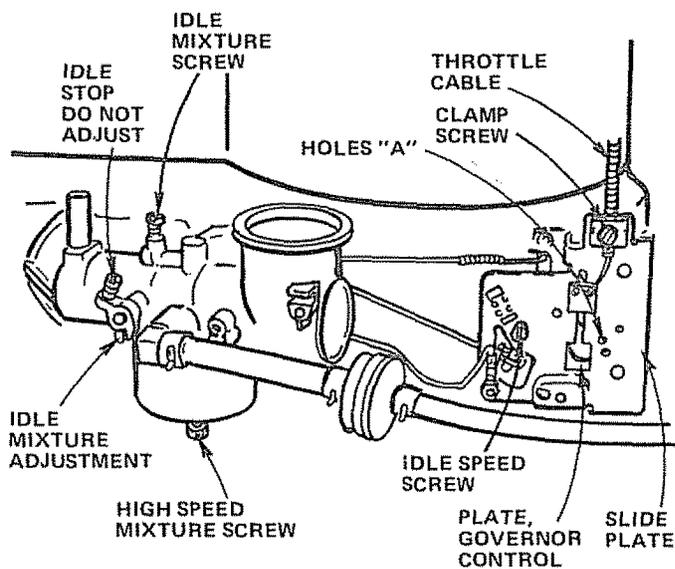

FIGURE 31
CARBURETOR ADJUSTMENT (FIG. 31)
- a. Turn High Speed Mixture Screw clockwise (↻) closing finger tight ONLY, and then turn counterclockwise (↺) 1 - 1/2 turns (Fig. 31).
HARD TO START Choked improperly, flooded Engine Clogged Fuel System Dirty Air Cleaner Spark Plug dirty or improper gap Defective Battery Defective Ignition or loose wiring Water in gasoline or old fuel Improper Carburetor adjustment	Place Throttle Control in "FAST" position (Fig. 10) and run starter several times to clear out gas Remove and clean Tank and lines. Replace Fuel Filter Remove and clean (Fig. 28) Clean, adjust gap or replace (Fig. 30) Recharge or replace Check the wiring and Spark Plug Drain Fuel Tank and Carburetor, use fresh fuel and replace Spark Plug Make necessary adjustments (Fig. 31)
ENGINE MISSES OR LACKS POWER Engine overload Clogged Fuel Tank or Fuel Filter Partially plugged Air Cleaner Improper Carburetor adjustment Dirty Engine Air Screen Low oil level or dirty oil Spark Plug dirty, improper gap or wrong type Faulty ignition Poor compression Oil in gasoline	Shift to a lower gear (Fig. 24) or reduce load Remove and clean Tank; replace Fuel Filter Remove and clean (Fig. 28) Make necessary adjustments (Fig. 31) Clean Air Screen (Fig. 25) Add or change oil (page 14) Replace Spark Plug (Fig. 30) Check Spark Plug and for loose wires Major Engine overhaul Drain Gas Tank and Carburetor and refill
ENGINE OVERHEATS Dirty Air Screen Low oil level or dirty oil Dirty Engine Partially plugged Muffler Partially plugged Air Cleaner Stale fuel or improper Carburetor adjustment	Clean Air Screen (Fig. 25) Add or change oil (page 14) Clean Engine Cooling Fins (page 16) Remove and clean Muffler or replace Remove and clean (Fig. 28) Use fresh fuel and adjust Carburetor (Fig. 31)